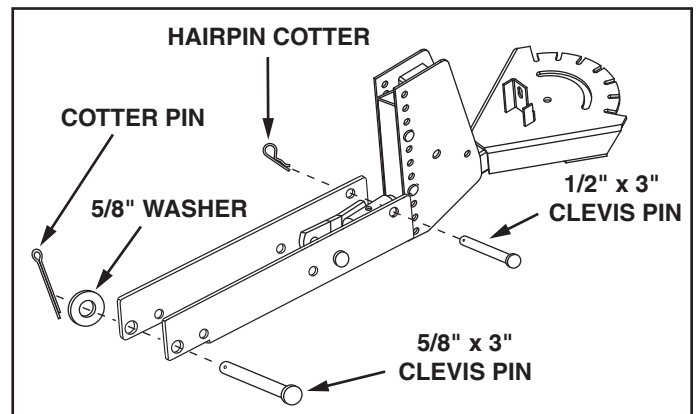

FIGURE 2
2. **(Figure 2 next column)** Install a 1/2" x 3" clevis pin and haircutter pin across the top of the drawbar swivel using the hole at the rear of the Ball Hitch Bracket.
3. **(Figure 2 next column)** Install the 5/8" x 3" clevis pin, 5/8" washer and cotter pin into the large front hole in the Ball Hitch Bracket.